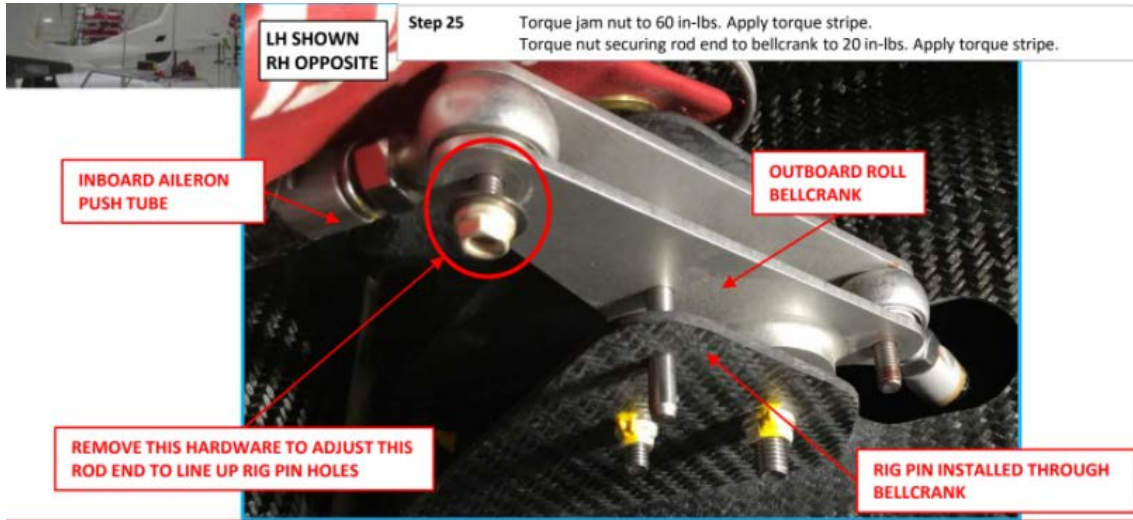

Figure 5: Out board roll bell crank rig pin installation and adjustment.
6. Unfold the wing and lock it in place. Attempt to install the outboard bellcrank 0.1875” rig pin as shown in Figure 5. If it cannot be installed easily, adjust the inboard pushrod outboard rod end to allow it to install easily. Once finished retorque the jamb nut to 60 in-lb.